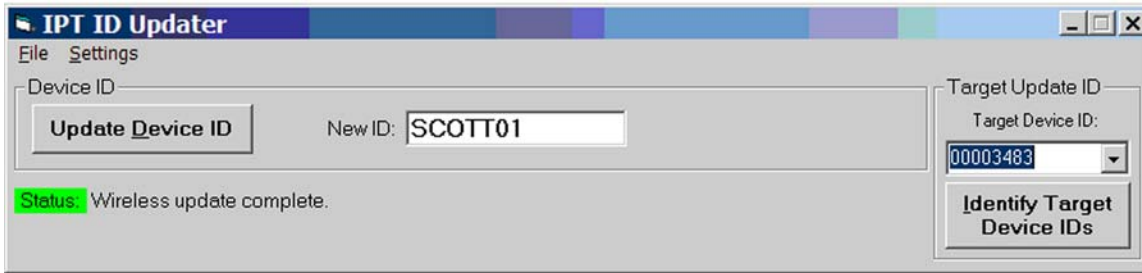

FIGURE 9
4. When the Update is successful, you will see the screen shown in FIGURE 9.